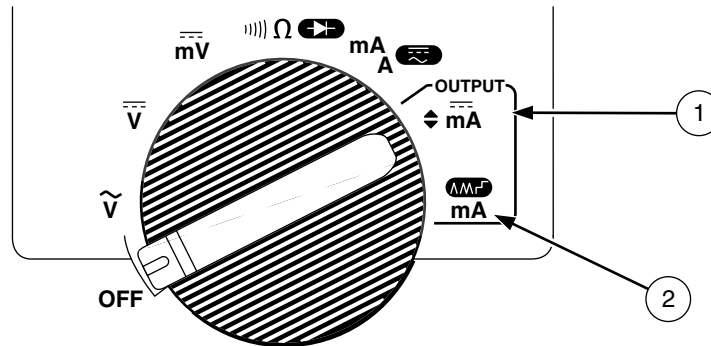

**Figure 3. Rotary Switch Positions for Measurements**
- Figure 3 and Table 3 describe the input functions you get with the first five rotary switch positions.